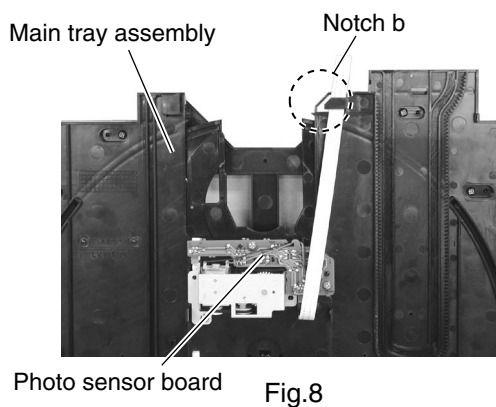

Fig.8
(See Fig.8 to 10)**
1. Turn over the main tray assembly and pass the card wire extending from the photo sensor board through the notch **b**, in advance (Fig.8).